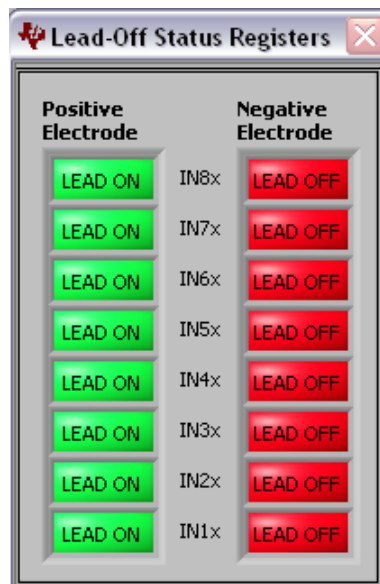
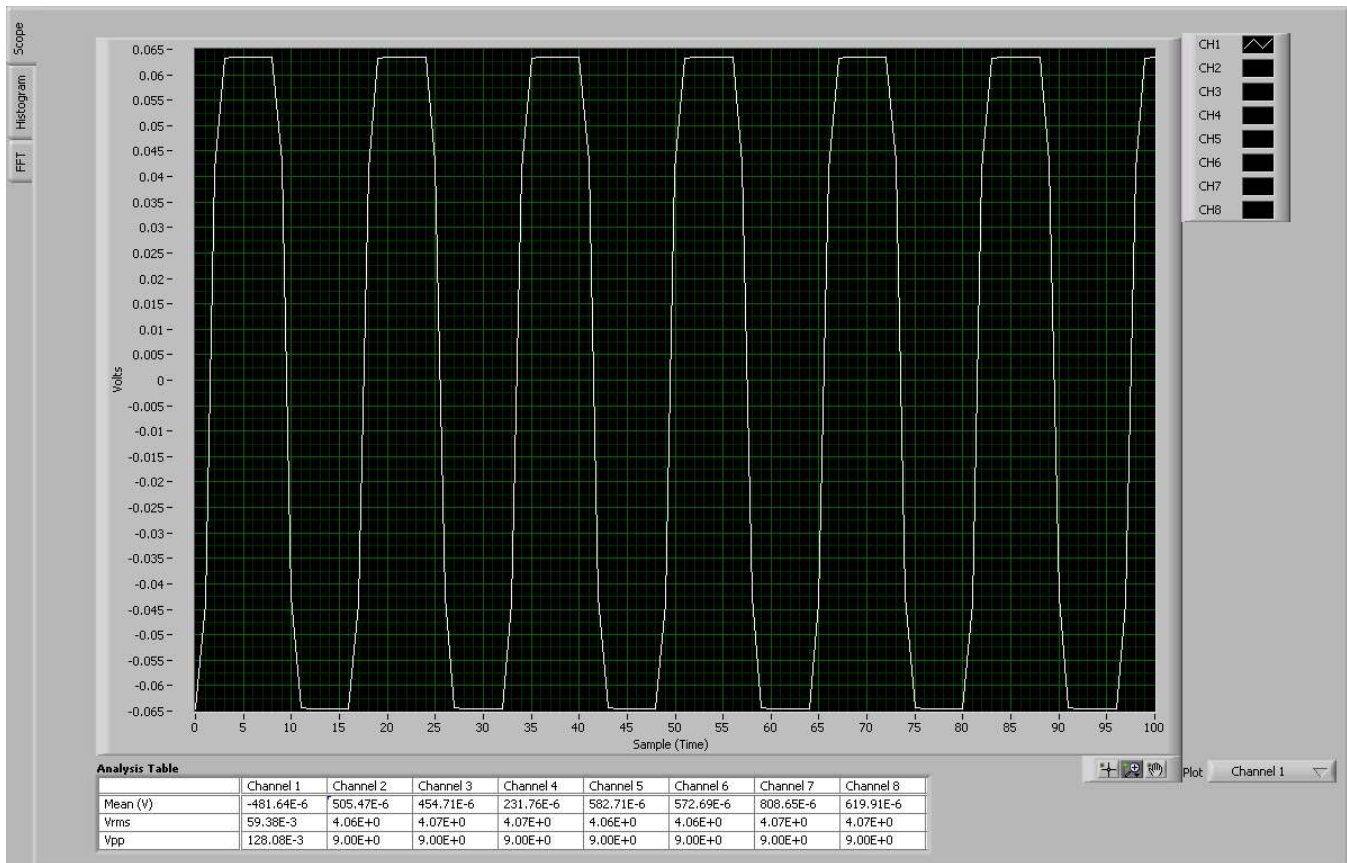
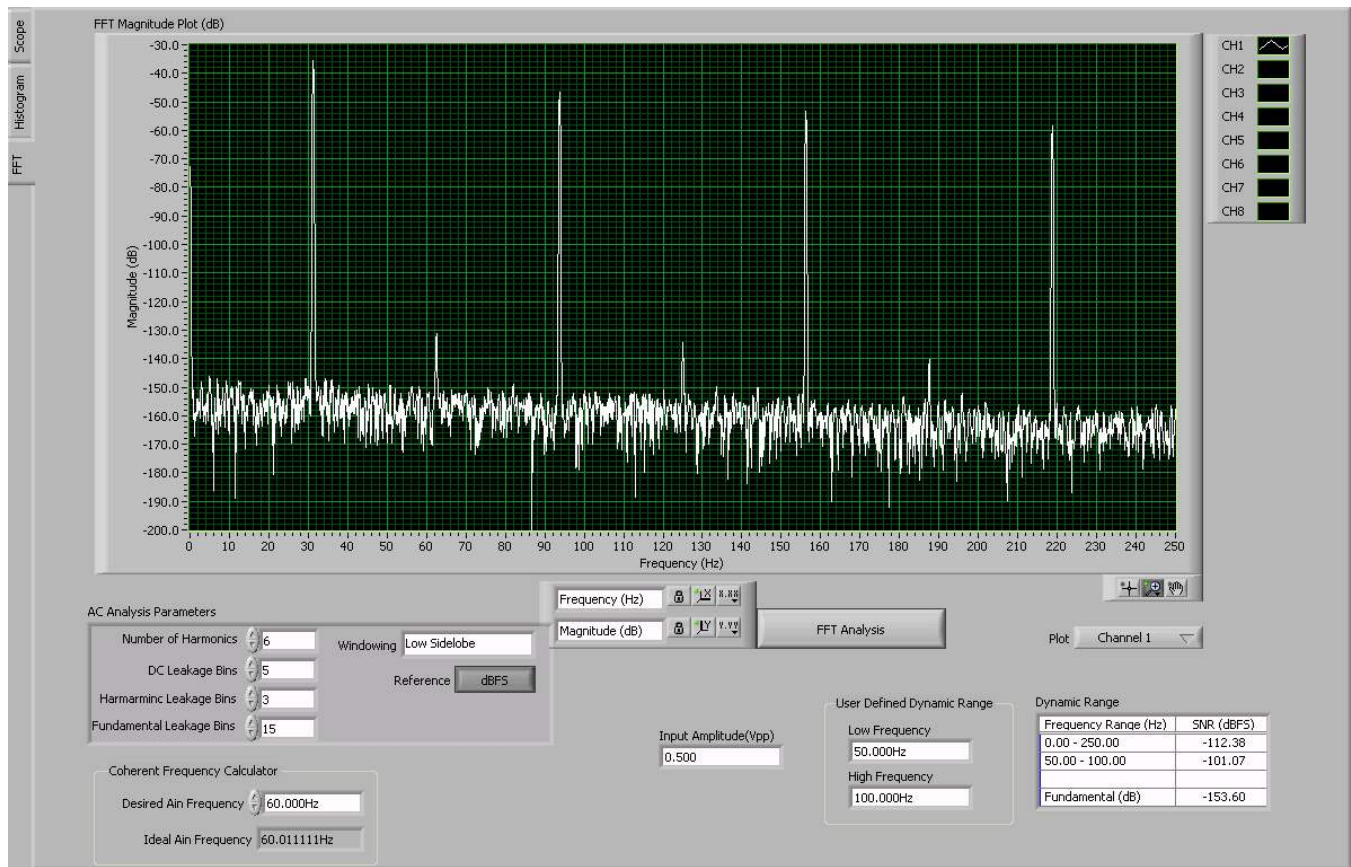

Figure 43. Lead off Status Registers
Figure 44. Scope tab for Impedance Measurement at 31.25 Hz
Figure 45. FFT Analysis for Impedance Measurement at 31.25 Hz
- Step 4. The software has an option where the LOFF_STATP and LOFF_STATM Registers are continuously polled (set the *Read Status Registers* switch as shown in shown in Figure 43). This option allows the user to see the lead-off detection scheme work in real time. Figure 44 shows a case for which only positive electrodes are connected.
As an example Figure 44 shows the snapshot of the scope with 5K impedance on each source with 6 μ A of lead-off current at 31.25 Hz. We expect a theoretical peak to peak voltage of 120mV. The observed peak-to-peak voltage is 128mV which is within the tolerance specification of current source. The results can also be analyzed in frequency domain using the FFT analysis tab as shown in Figure 45. The magnitude of the fundamental component will be directly proportional to the electrode impedance being measured.